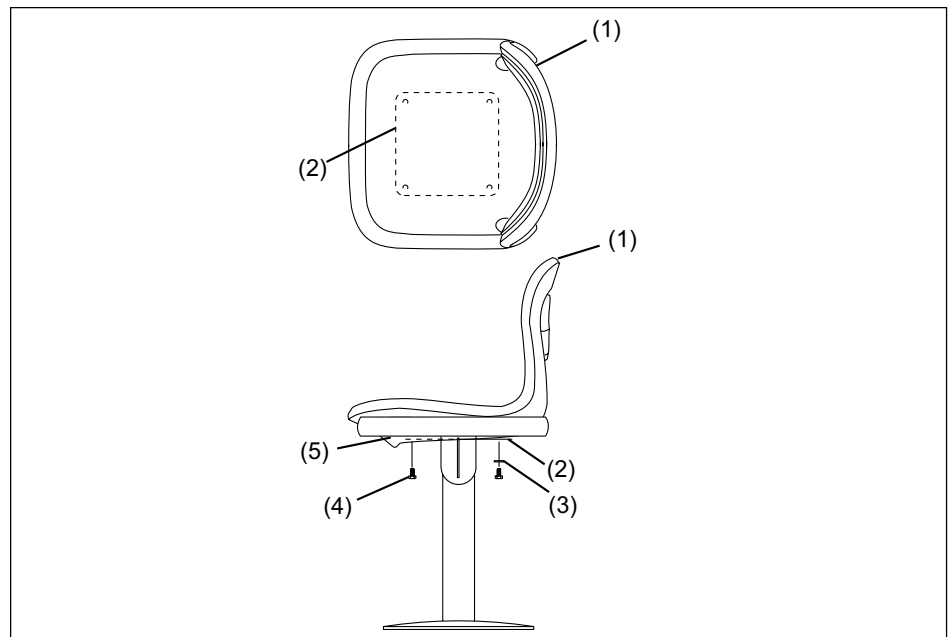

Figure 21. Secure Plastic Seat to Weldment
1. Align the holes in the seat weldment with the four factory drilled holes in the seat bucket. Secure the seat weldment to the seat bucket with four each 1/4-10 x 1" hex head self tapping screw and star washer. Refer to *Figure 21*.